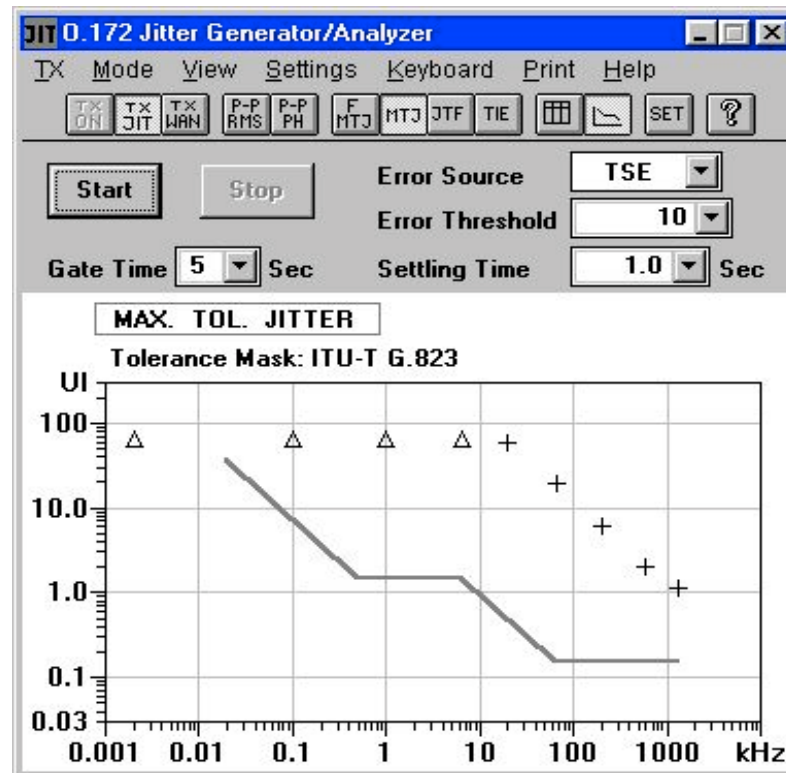

Fig.5 Display of MTJ Test results in Graphics Format
2. Graphics format (Refer fig.5)